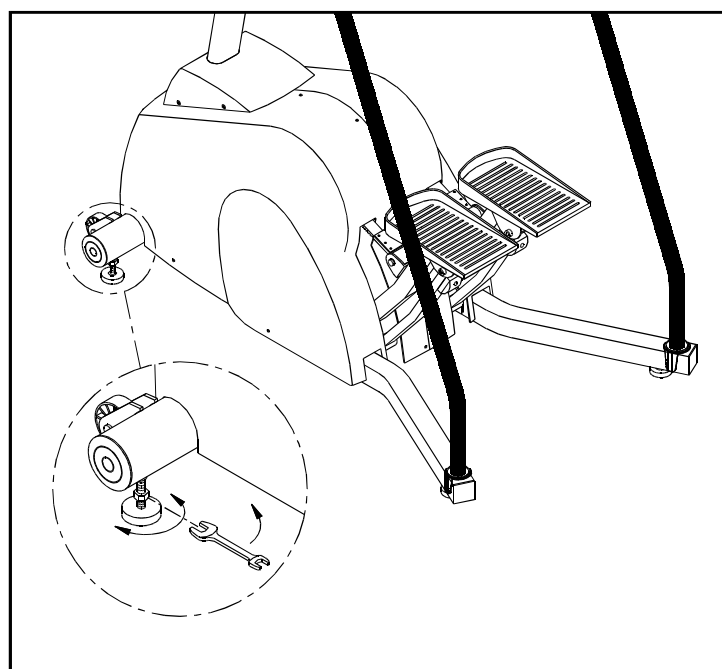

Fig.6
9. If the stair climber is unsteady on your floor, turn the floor level adjustments on each end of the front base. Raise or lower the floor level adjustments to steady your machine. Then tighten the nuts using the open-ended wrench. (see Fig.6)